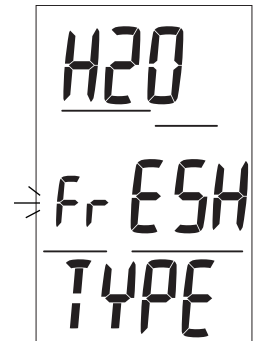

Fig. 28 - Set WATER TYPE
**Set Water Type**, information includes (Fig. 28):